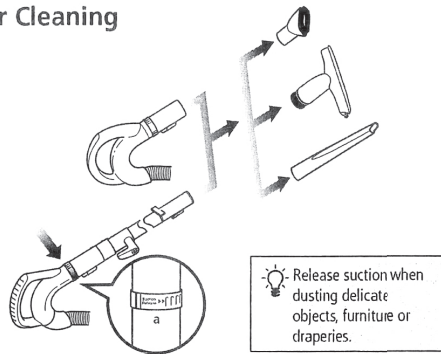

Fig. 16 Suction Release Collar
- Attach desired accessory onto the end of either the extension wand or the handle. (Fig. 16)
- Your vacuum has tremendous suction power. Adjust the amount of suction with the suction release on the handle. Open the valve (a) by rotating the collar 90° counterclockwise for low suction when doing light jobs such as drapes or fine surfaces. Close the valve (a) by rotating the collar clockwise 90° for high suction and when using the hand held power brush. (Fig. 16-a)